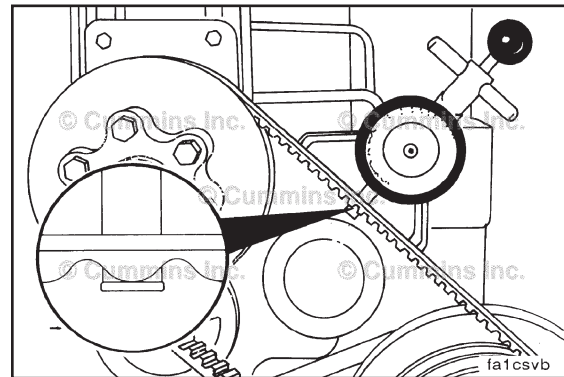

Fig. 126
- We recommend using the Cummins V-belt tension tester (Fig. 126) Cummins Part. No. 322524 or a Burroughs gauge Part. No. ST-1138.